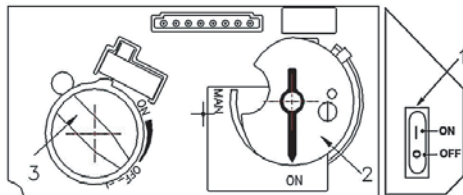
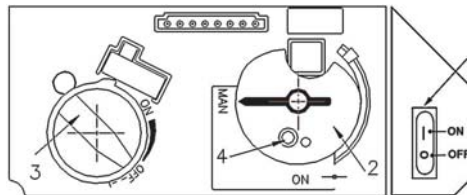

Fig 1
Fig 2
2. SET ON/OFF SWITCH (1) TO "OFF" POSITION.
- Wait five (5) minutes to clear out any gas, then smell for gas, including near the floor. If you smell gas, STOP! Follow "B" in the safety information above on this label. If you don't smell gas, go to the next step.
3. **AUTOMATIC IGNITION (fig. 1):** Locate the pilot (fig. 3.) inside of firebox at Left Hand side.
- ON/OFF switch (1) in ON position, MAN-knob (2) in ON position; set Flame Adjustment knob (3) to lowest setting (⊖);
- When the pilot is lit, the Flame Adjustment knob (3) will automatically rotate to the highest setting.
4. **MANUAL IGNITION (fig. 2):** With the window off, locate the pilot (fig. 3)
- ON/OFF switch (1) in ON position, MAN-knob (2) in MAN position;
- Set Flame Adjustment knob (3) to the lowest setting (⊖);
- Push down the metallic core (4) with a pen or similar instrument; this will establish the pilot gas flow;
- Light gas at the pilot (5) with a match;**
- Continue holding down metal core (4) for about 10 seconds; after release, pilot should remain lit;
- If the pilot will not stay lit after several tries, turn the gas control knob (3) to "OFF" (⊖) and call your local service technician or gas supplier.